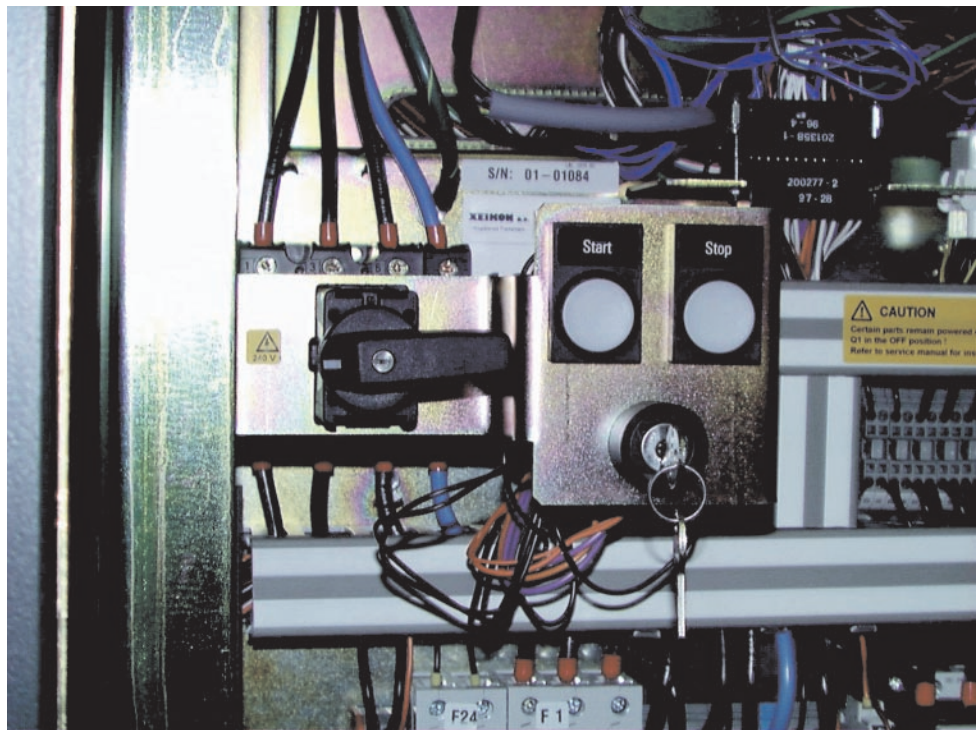

Figure 116. InfoPrint Color 100 Main Switch
2. If night tower conditioning is not active, turn the main switch of the InfoPrint Color 100 to the **On** position, as shown in Figure 116. If night tower conditioning is active, the main switch is already in the **On** position.